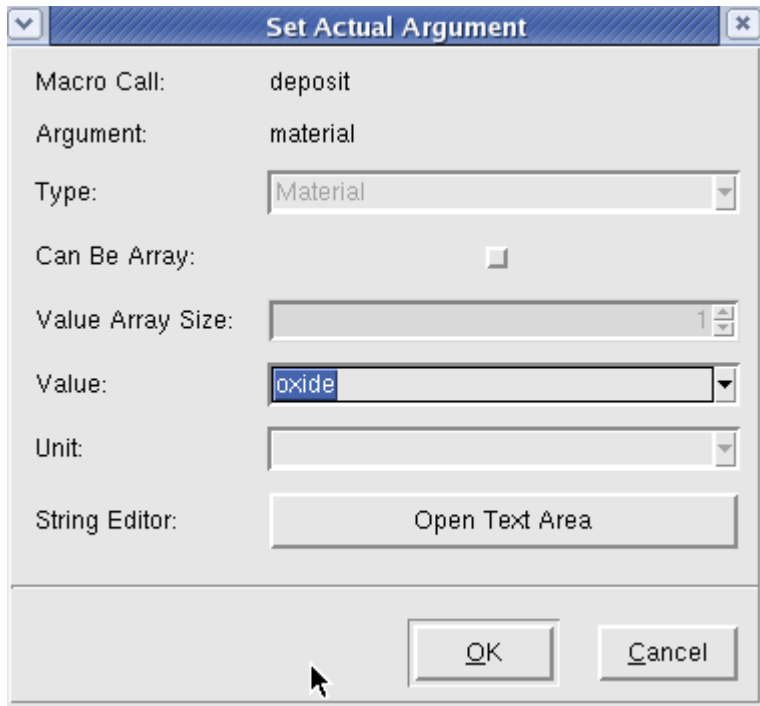
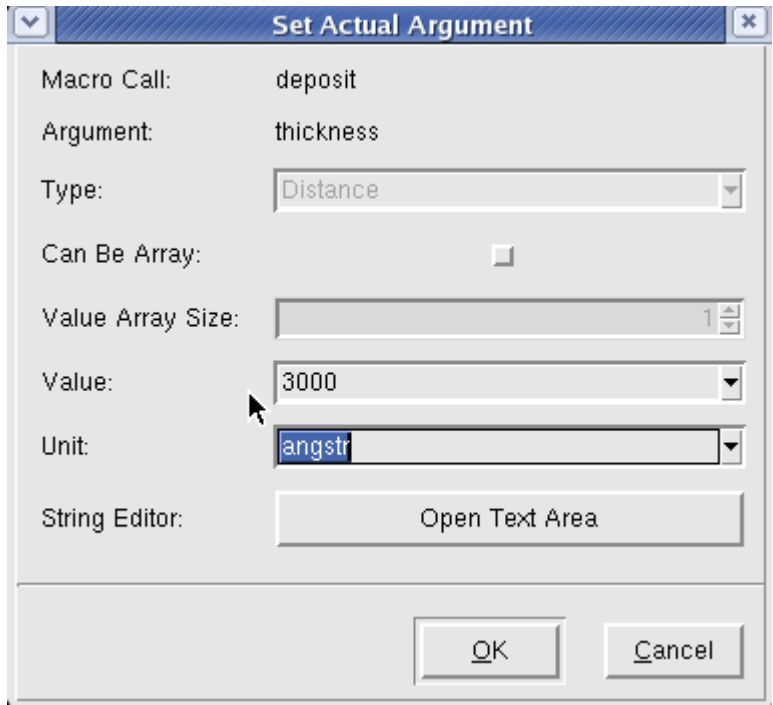
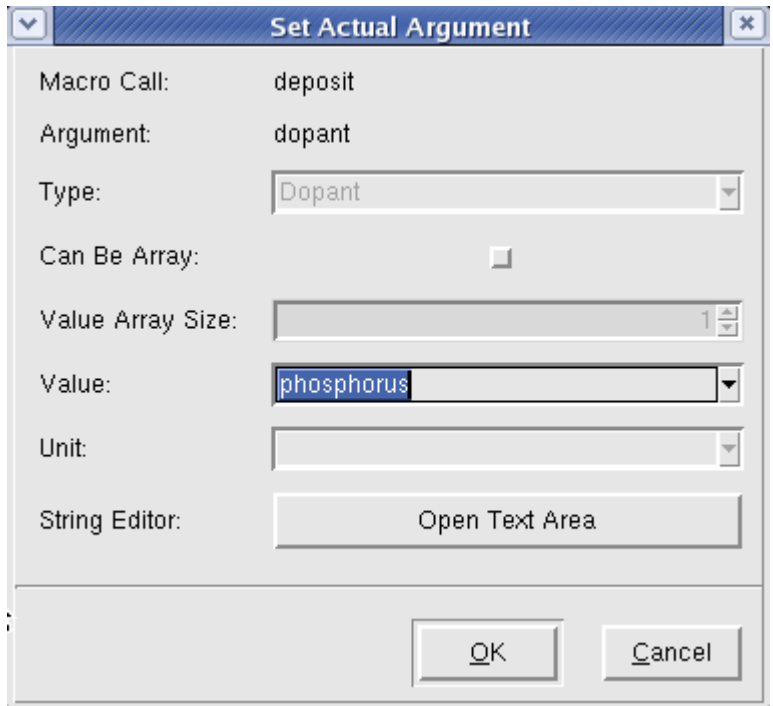
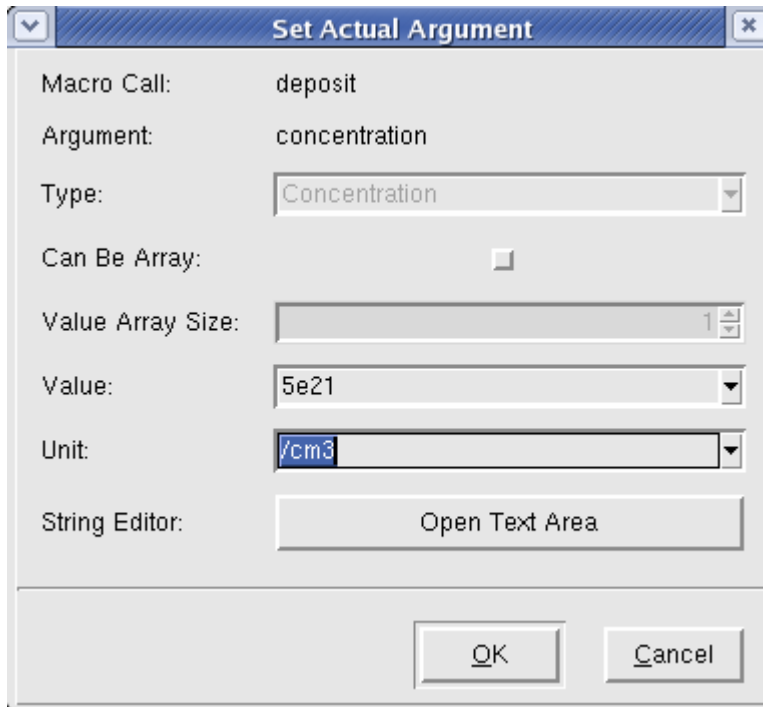

Figure 59: Set the Material type to oxide.
Figure 60: Set the thickness to 3000Å.
Figure 61: Setting the doping type to P.
Figure 62: Setting the concentration.
9. Set the material to Oxide (Figure 59), the thickness to 3000 Angstroms (Figure 60), the dopant to phosphorus (Figure 61), and the concentration to $5e21$ /cm³ (Figure 62). Save your GUI ligament flow.